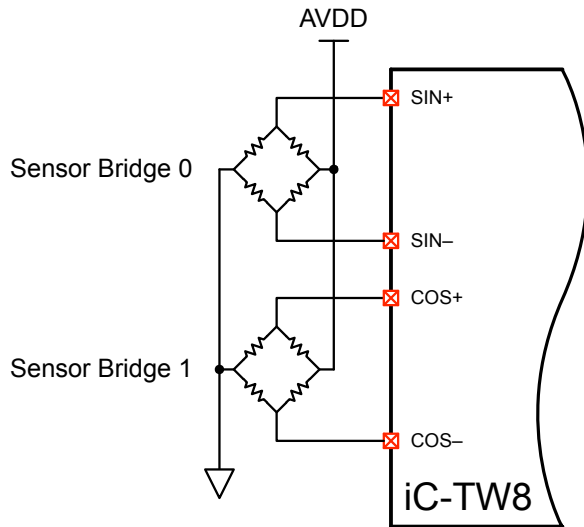
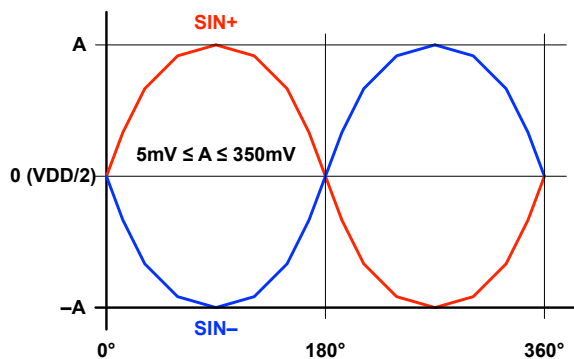

Figure 29: Differential Sensor Connection
Figure 30: Differential Sensor Signal Inputs
The iC-TW8 connects directly to magnetic (such as the iC-SM2L or iC-SM5L) or optical sensors providing differential Sin/Cos outputs as shown in Figure 29. Signal amplitude (A) from all four sensor channels must be in the range of 5–350mV as shown in Figure 30 for proper operation with the iC-TW8.